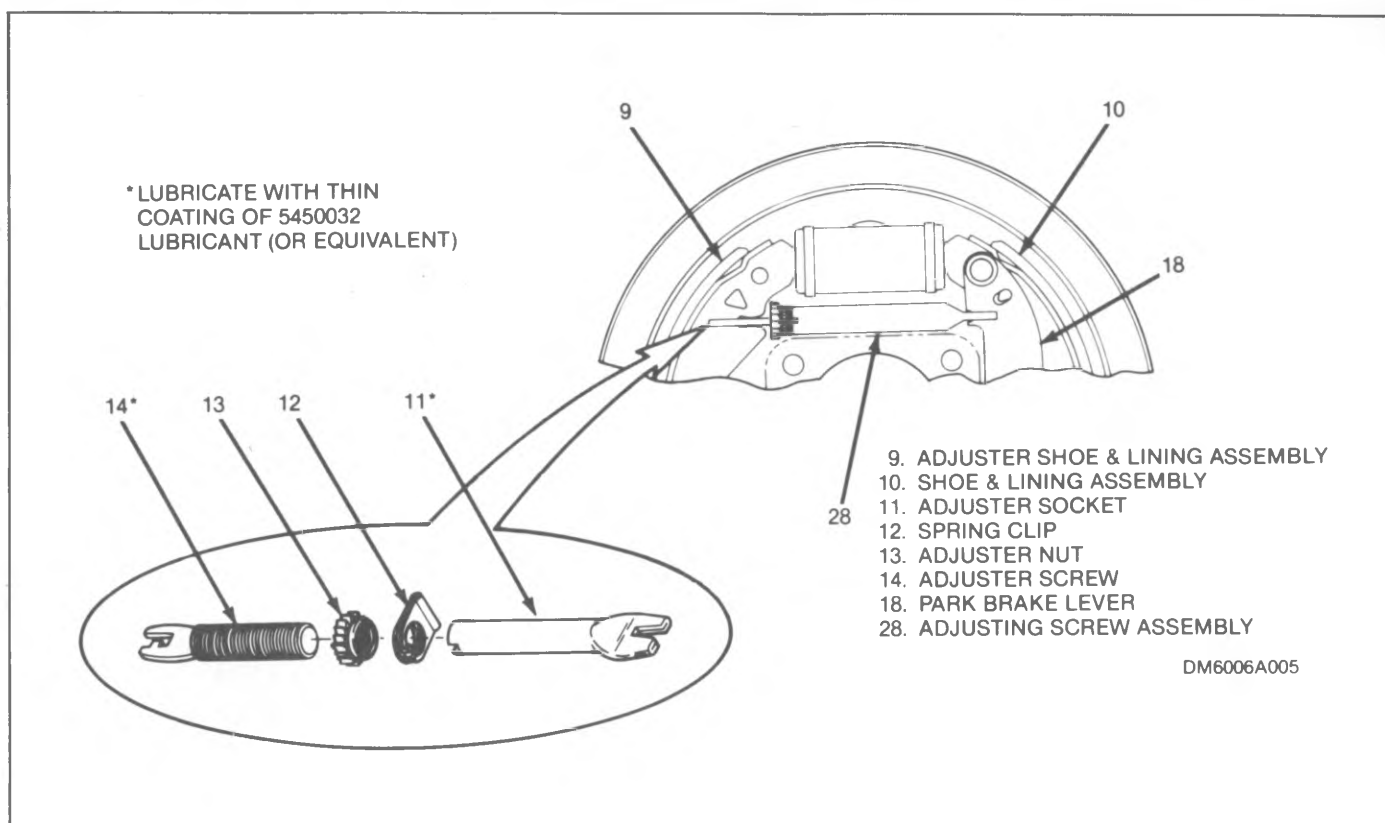
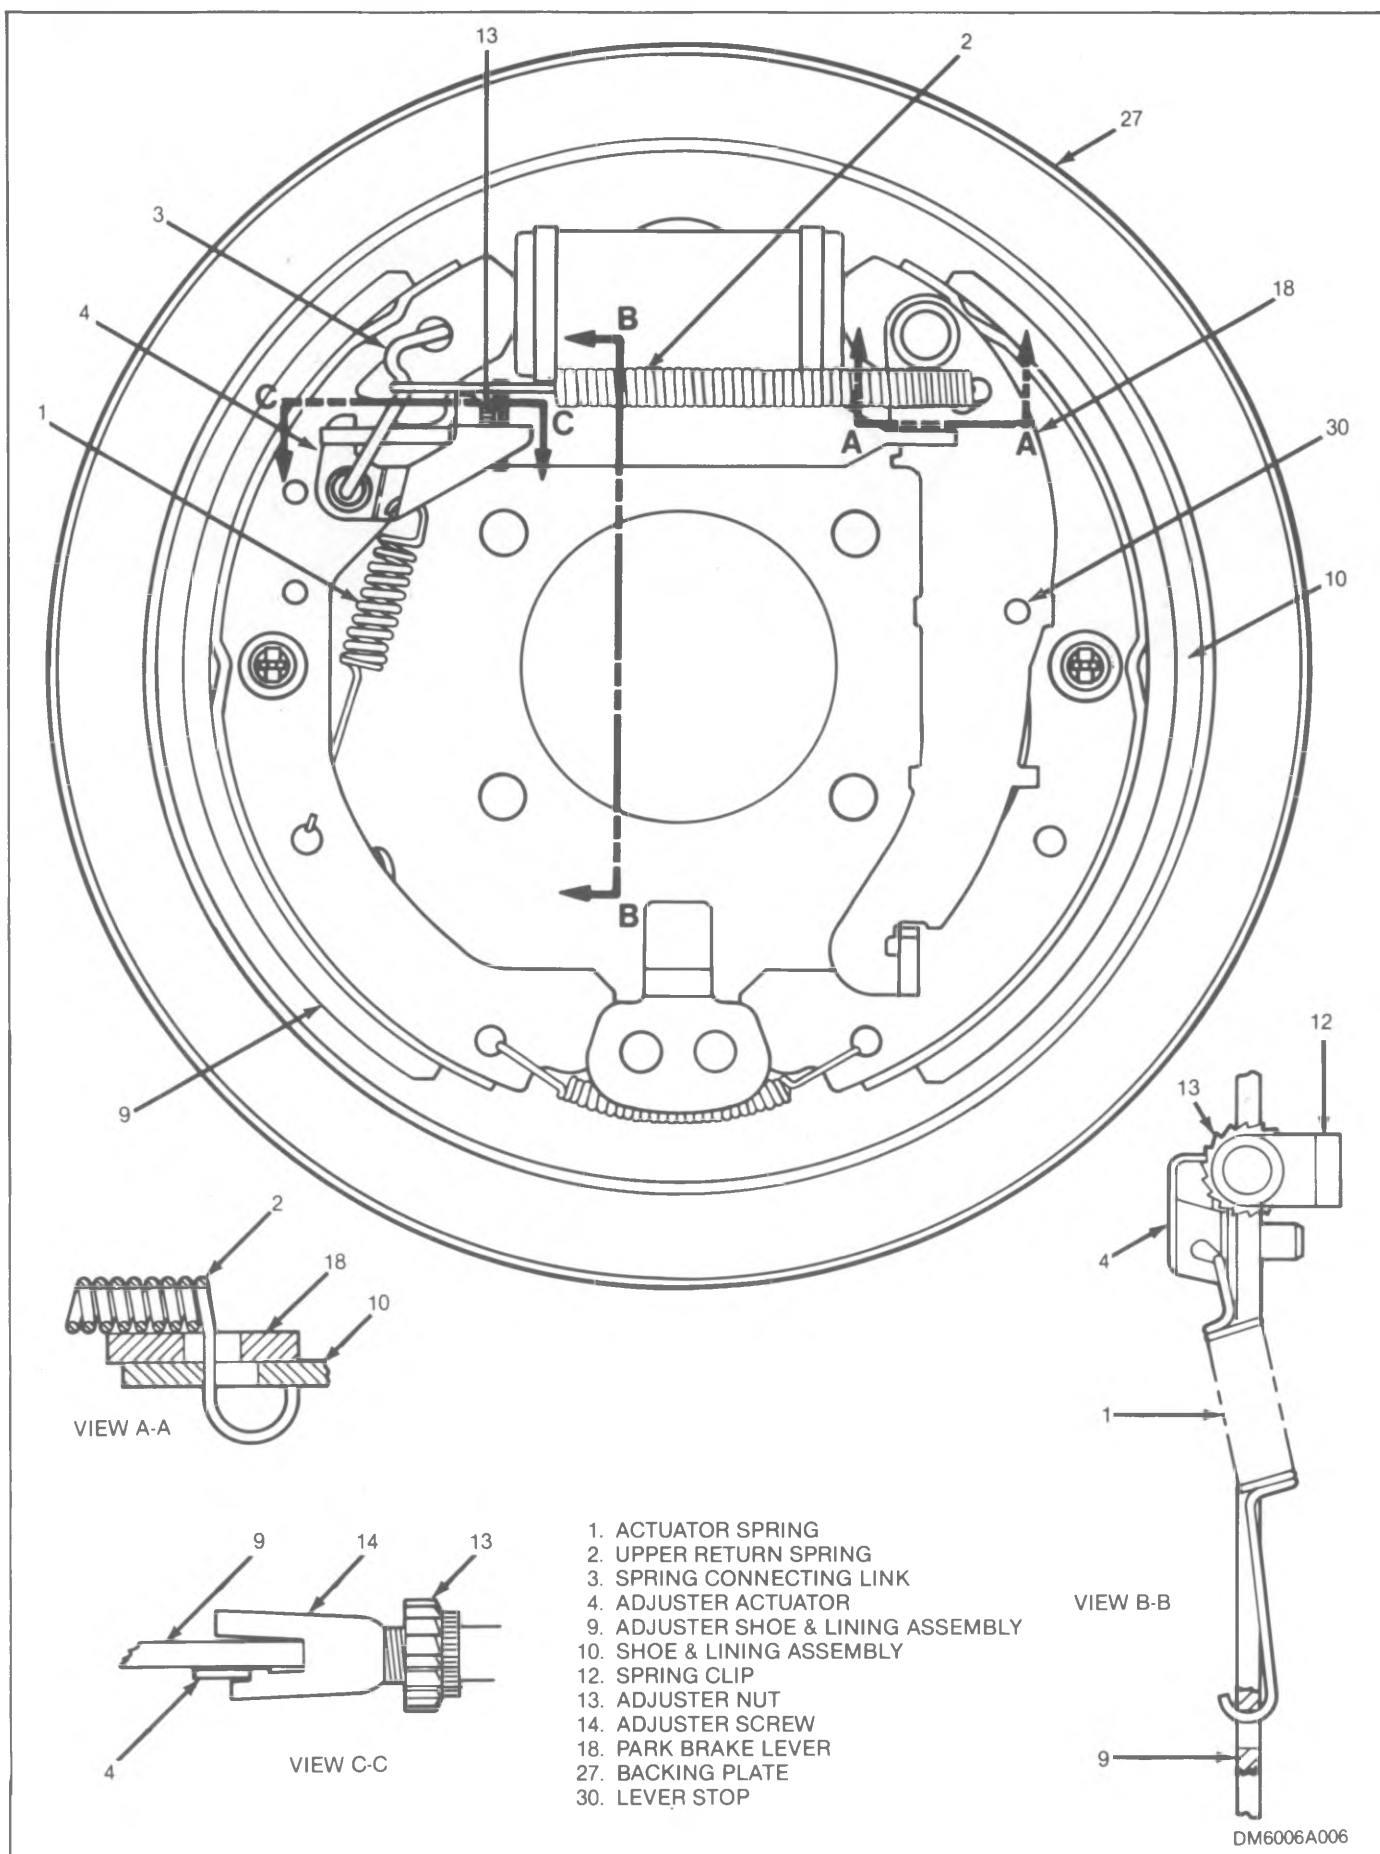

Figure 4-38. Adjusting Screw Assembly
Figure 4-39. Brake Assembly Details
14. Disassemble adjusting screw assembly (see figure 4-38) and clean parts in denatured alcohol. Check threads of adjuster screw (14) and nut (13) for smooth rotation over entire length. Apply brake lube
to adjuster screw threads, and ID of adjuster socket (11). Reassemble with spring clip (12) in position shown in figure 4-38.
16. If shoe and lining assemblies were replaced, press adjuster pin (33) into shoe and lining (9) so that pin projects 7.0-7.2 mm (0.275-0.283 in.) from side of shoe web where adjuster actuator (4) is installed.
17. Install parking brake lever (18) on shoe and lining (10) with spring washer (17), pin (16) and retaining ring (15). Make sure concave side of spring washer is against parking brake lever.
18. Install lower return spring (6) between shoe and linings (9 and 10).
19. Install adjuster shoe and lining (9) and shoe and lining (10) (after connecting parking brake cable) with hold down pins (8) and springs (7). Lower return spring (6) should be positioned under the anchor plate.
a. Adjuster shoe and lining (9) is the one in which pin (33) was installed.
b. Adjuster shoe and lining (9) is to front of car on LH brake assembly or to rear of car on RH brake assembly.
20. Install adjusting screw assembly (28) between adjuster shoe and lining (9) and shoe and lining (10). Position as follows (see figure 4-39).
a. Adjusting screw assembly (28) with adjuster screw (14) engaging notch in adjuster shoe and lining (9), and spring clip (12) pointing towards the backing plate (see figure 4-38).
21. Install spring washer (5) over pin (33) with concave side against web of adjuster shoe and lining (9).
22. Install adjuster actuator (4) so that its top leg engages notch in adjuster screw (14) as shown in figure 4-39, view C-C.
23. Install spring connecting link (3) and hold in place.
24. Install upper return spring (2) as follows:
a. Insert angled hook end of spring (2) through parking brake lever (18) and shoe and lining (10) as shown in figure 4-39, view A-A.
b. Grasp long straight section of spring (2) with pliers. Pull spring straight across and then down to hook into crook in connecting link (3).
25. Install actuator spring (1) with brake spring pliers as shown in figure 4-39, view B-B.